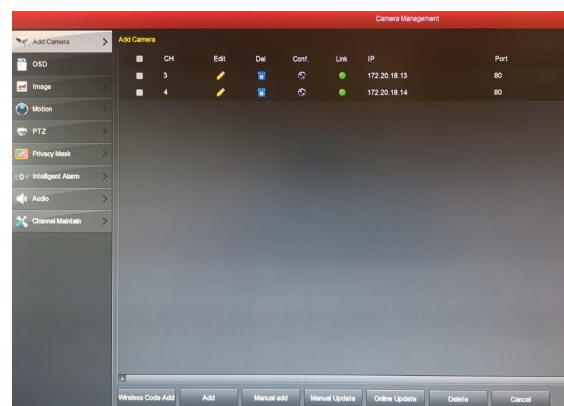

Fig.4
- In the main menu of the recorder, select the "Camera" option to open the "Camera management" window" and display the list of cameras installed in the system (Fig. 4).